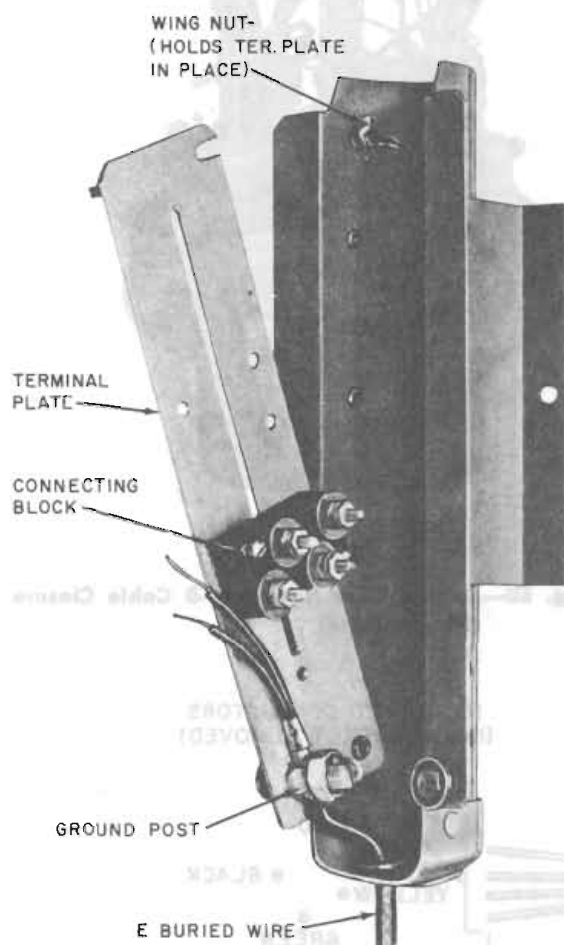

Fig. 57—Bonding Metallic Tape of Buried Wire—E Buried Wire Terminal
(2) Place the metallic shield of the buried wire under the nut of the ground post and remove the insulation from the conductors as illustrated in Fig. 57.